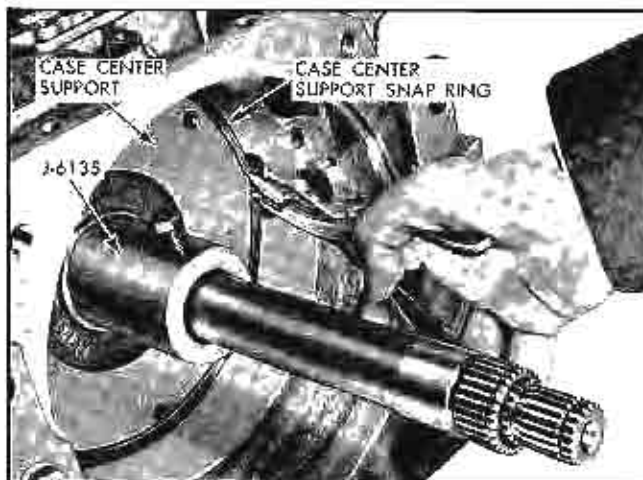

Fig. 59 Removing Case Center Support Snap Ring
9. Remove center support to case snap ring, using screw driver (Fig. 59).